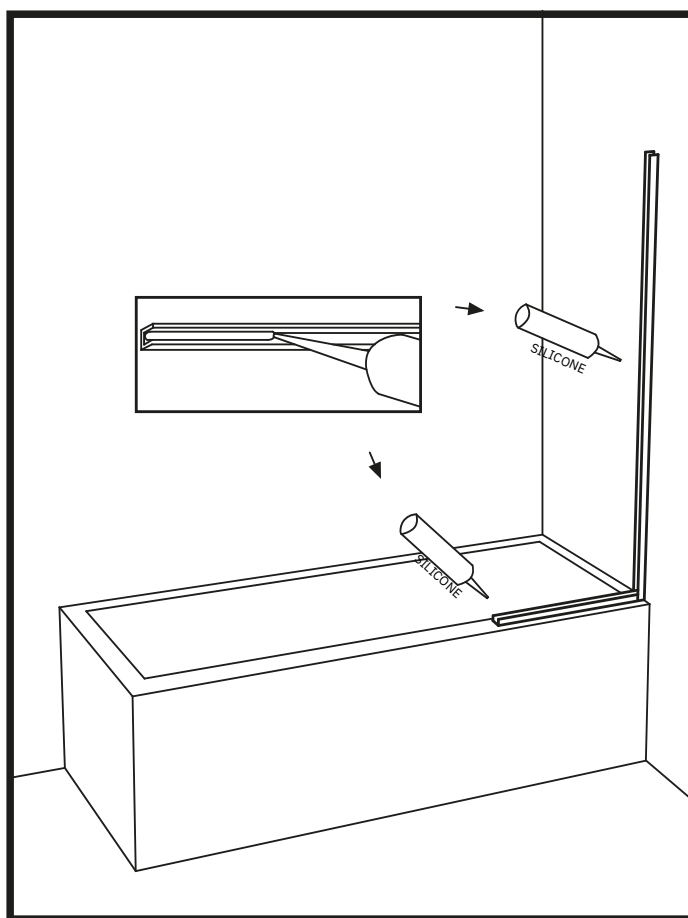

Figure 6
11. Fill the U-channel on the wall and the edge of the bathtub with an even silicone strip. (Fig 6)